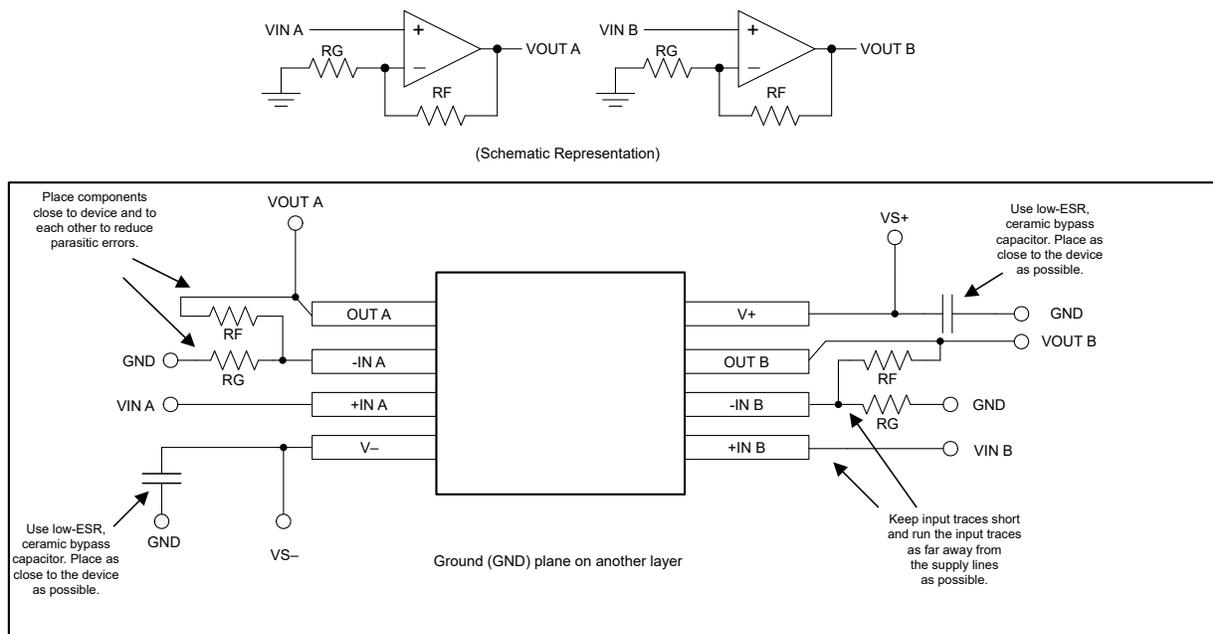

图 8-8. Layout Recommendation for TLV2365-Q1 SOIC Package
- Place the external components as close to the device as possible. 图 8-8 shows that keeping  $R_F$  and  $R_G$  close to the inverting input minimizes parasitic capacitance.